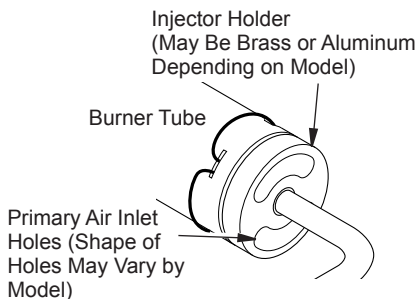

Figure 27 - Injector Holder On Outlet Burner Tube
2. Inspect burner, pilot and primary air inlet holes on injector holder for dust and dirt (see Figure 27).